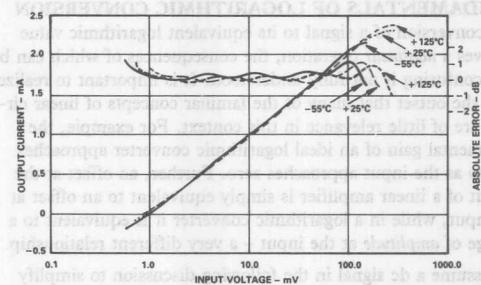
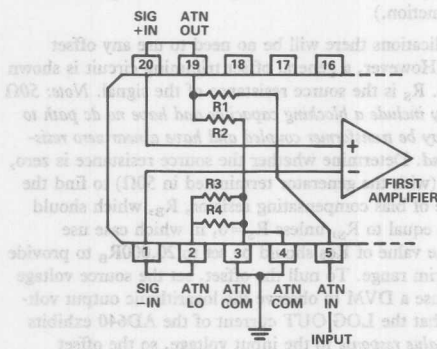

Figure 18. Logarithmic Output and Absolute Error vs. DC or Square Wave Input at $T_A = -55^\circ\text{C}$, $+25^\circ\text{C}$, Input Direct to Pins 1 and 20
Figure 26. Details of the Input Attenuator
The logarithmic function of the AD640 is absolutely calibrated to within $\pm 0.3\text{dB}$ (or $\pm 15\mu\text{A}$) for 2kHz square-wave inputs of $\pm 1\text{mV}$ to $\pm 100\text{mV}$, and to within $\pm 1\text{dB}$ between $\pm 750\mu\text{V}$ and $\pm 200\text{mV}$. Figure 18 is a typical plot of the dc transfer function, showing the outputs at temperatures of -55°C , $+25^\circ\text{C}$ and $+125^\circ\text{C}$. While the slope and intercept are seen to be little affected by temperature, there is a lateral shift in the end points of the “linear” region of the transfer function, which reduces the effective dynamic range. The cause of this shift is explained in FUNDAMENTALS OF LOGARITHMIC CONVERSION.
chip attenuator should be used because it provides a temperature independent dynamic range (compare Figures 18 and 19). Figure 26 shows this attenuator in more detail. R1 is a thin film resistor of nominally 270 Ω and low temperature coefficient (TC). It is trimmed to calibrate the intercept to 10mV dc (or -24dBm for sinusoidal inputs), that is, to an attenuation of nominally 20dBs at 27°C. R2 has a nominal value of 30 Ω and has a high positive TC, such that the overall attenuation factor is 0.33%/°C at 27°C. This results in a transmission factor that is proportional to absolute temperature, or PTAT. (See Intercept Stabilization for further explanation.) To improve the accuracy of the attenuator, the ATN COM nodes are bonded to both Pin 3 and Pin 4. These should be connected directly to the "SIGNAL LOW" of the source (for example, to the grounded side of the signal connector, as shown in Figure 32) not to an arbitrary point on the ground plane.